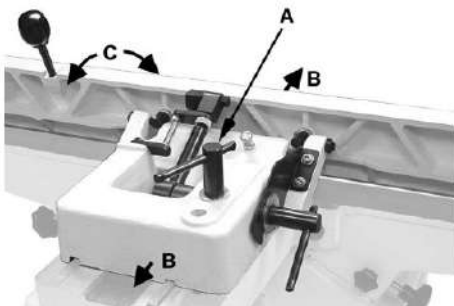

Fig 18
The fence can be moved forward or backward across the width of the table (B, Fig. 18). It also tilts up to 45 degrees forward and has a positive stop at 90 degrees.
1. Loosen the locking handle (A, Fig. 18).
2. Push the entire fence assembly (B, Fig. 18) to the desired position, and tighten the locking handle.